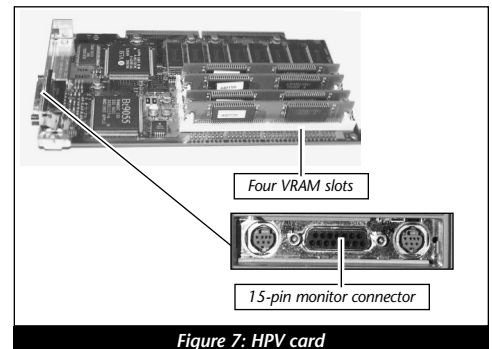

Figure 7: HPV card
- **HPV Card** – The HPV (High Performance Video) card has a single 15-pin monitor connector for a monitor and four onboard Video RAM (VRAM) slots (**Figure 7**).